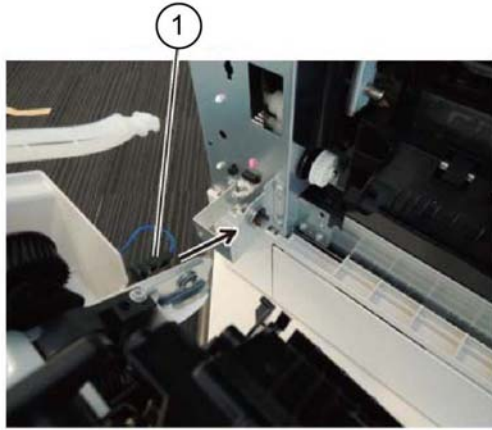

Figure 6 Harness guide
When reinstalled the LH cover, do not let the rear harness guide (1) contact the bracket. Refer to Figure 6.